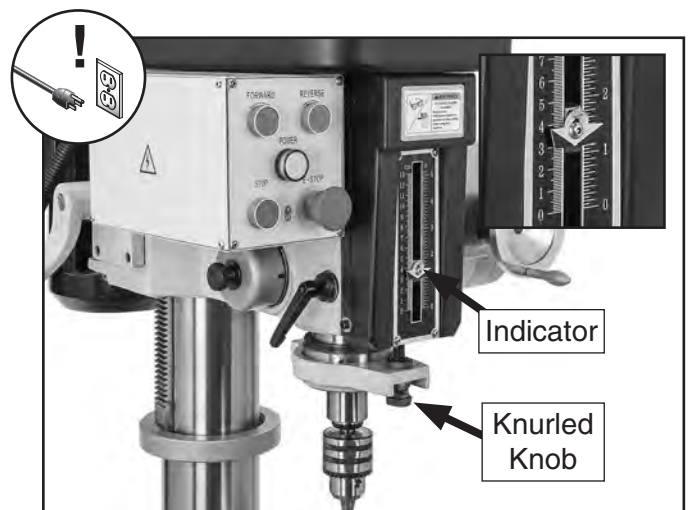

Figure 25. Depth stop controls.
4. Rotate knurled knob (**Figure 25**) until *top* of indicator is level with desired depth as listed on scale.